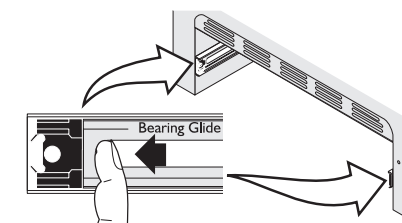

Fig. 2
1. Pull the bearing glides to the front of the chassis glide (see Fig. 2).